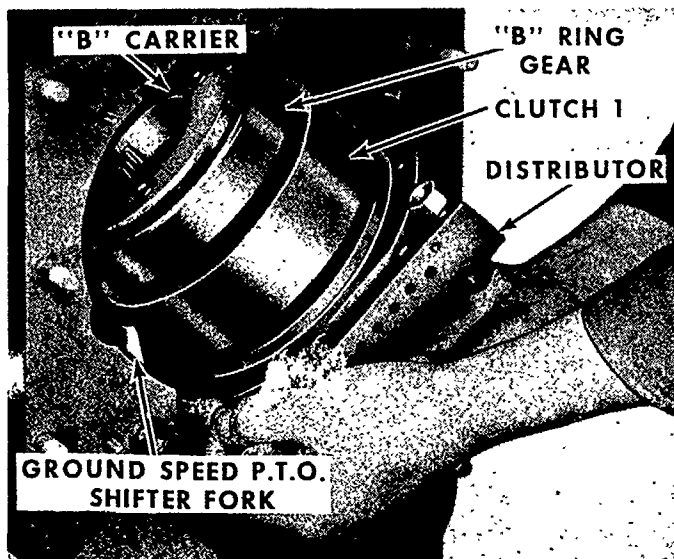

Figure 52
17. Remove the distributor, clutch 1, "B" ring gear, and "B" carrier as an assembly. The distributor can also be removed separately prior to the removal to the clutch 1 and "B" carrier assembly. Refer to Figures 52 and 53. Remove band 2.